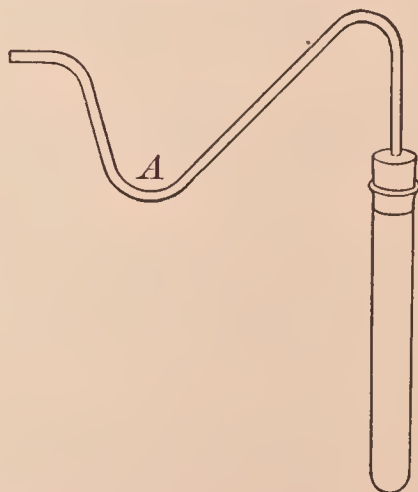

FIG. 72. — Apparatus for preparing bromine
**APPARATUS.** — As in Fig. 72; bottle half full of water and fitted with a cork. The large test tube has a one-hole rubber stopper to which is fitted the bent glass tube; the total length of the glass tube is about 30 cm. (12 in.).
Put about 3 gm. of potassium bromide in a large test tube, and add 10 cc. of dilute sulfuric acid. Insert the stopper and its tube (Fig. 72), attach the test tube holder, and warm gently. Bromine vapor soon appears in the test tube and, if the heat is sufficient, some vapor will escape from the delivery tube.